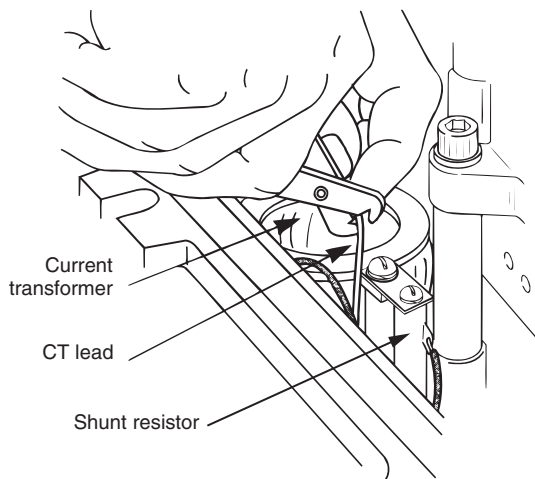

Figure 2. Cutting CT leads
7. Cut the leads from the original current transformers approximately 4" from the shunt resistor. See Figure 2.